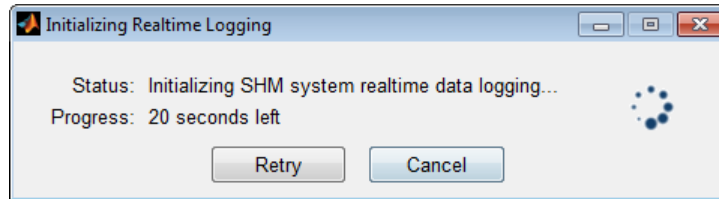

Figure 6.1: 'Initiating Realtime Logging' dialog box.
- ✓ **Step 6.5** Click the 'OK' button to initiate real-time logging. The 'Initializing Monitor Logging' dialog box will appear, as shown in Figure 6.1, displaying the status of initiating the real-time data logging and the amount of time remaining to receive a confirmation.